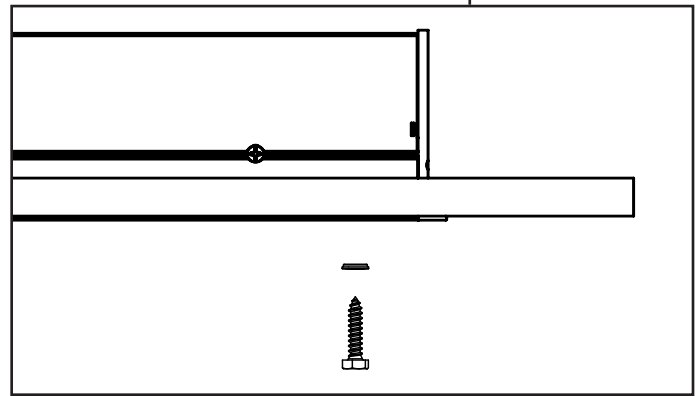

Figure 13
2. Attach the end of the fixture using a 1/4" lag bolt suitable for the blocking and a sealing washer. (Figure 13)